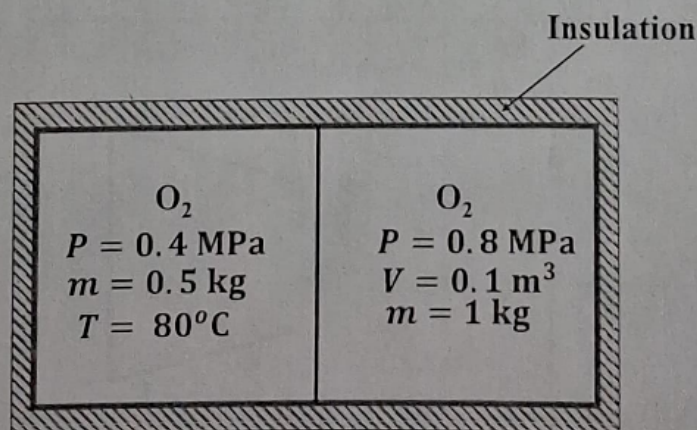

Figure 2
2. (a) Oxygen (Calorifically perfect gas, $M = 32 \text{ kg/kmol}$, isentropic index i.e., $k = 1.4$) occupies a rigid insulated vessel separated by an adiabatic partition as shown in the Fig. 2. The initial states on both the side of the partition are given in the figure. The partition is broken and equilibrium is reached. Find the final pressure and temperature, entropy change, and entropy generation during the process. Is the process reversible? Explain.